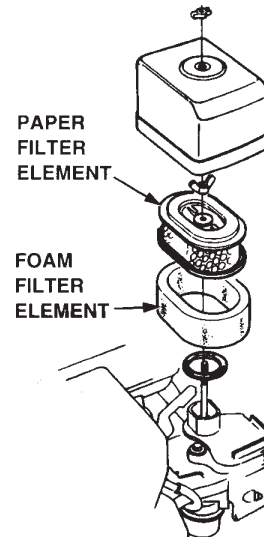

Figure 20. Air Filter
2. To clean or replace air filter loosen the wing nut on the air filter housing (Figure 20), remove the cover and take out air filter cartridge.